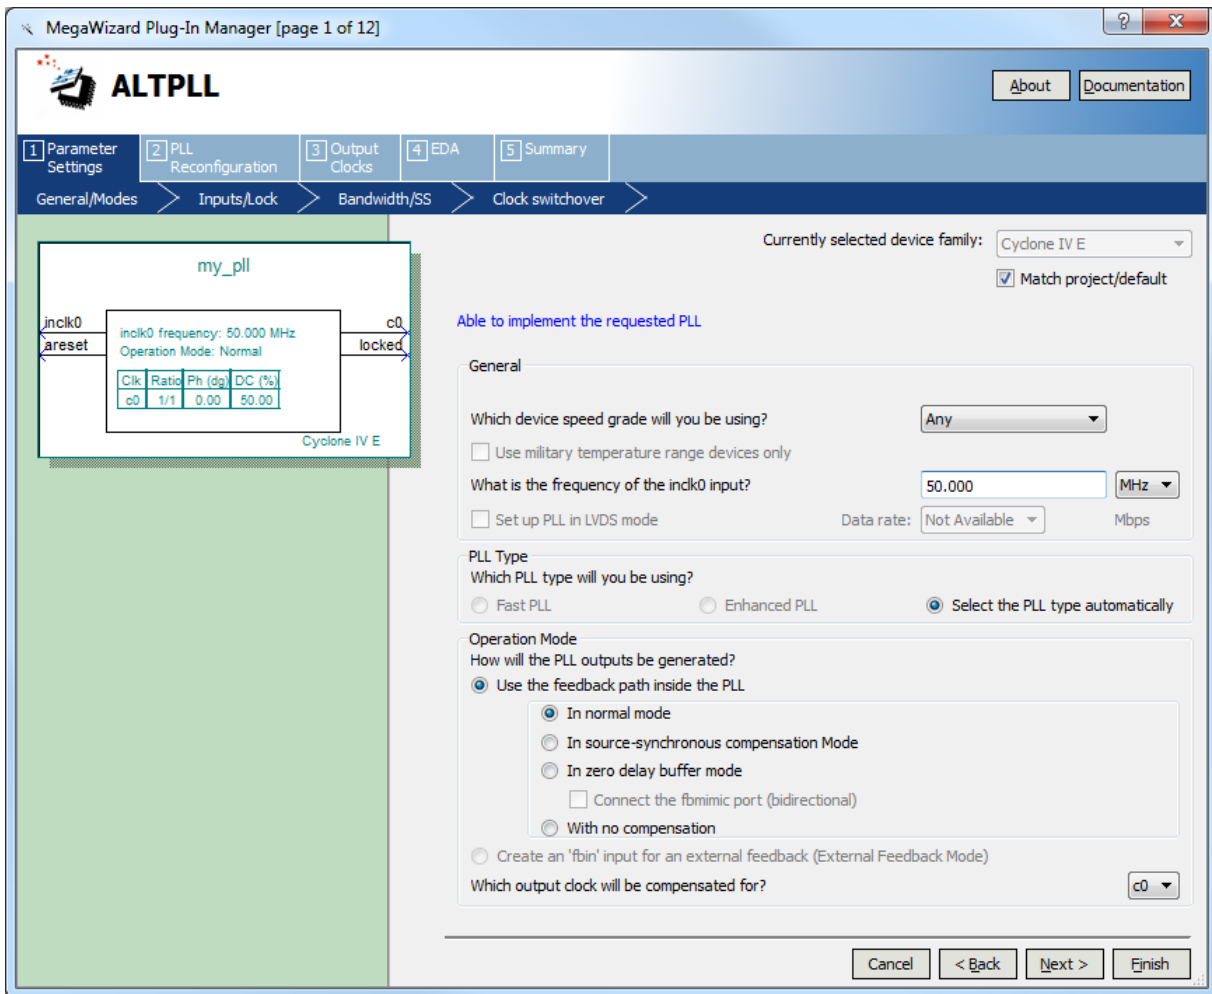

Figure 14. Settings for General/Mode section.
4. Under the **Parameter Settings** tab, set **What is the frequency of the inclk0 input** to 50 MHz as shown in Figure 14.